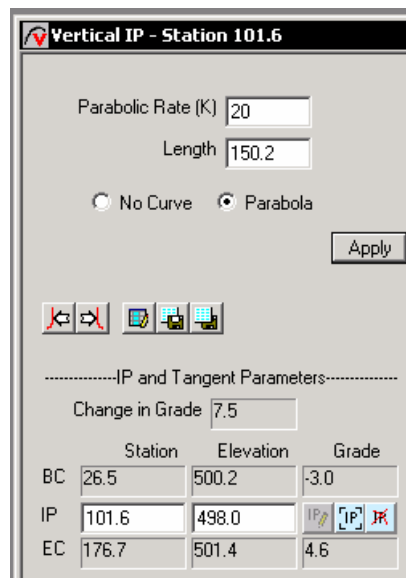

Figure 4.28: The Vertical Curves Panel
3. Select *Parabola* in the top of the panel as shown in the Figure 4.28, and then type in *K* or *Length* (K and Length are **not** independent once the tangent grades are fixed). Press *Apply*.